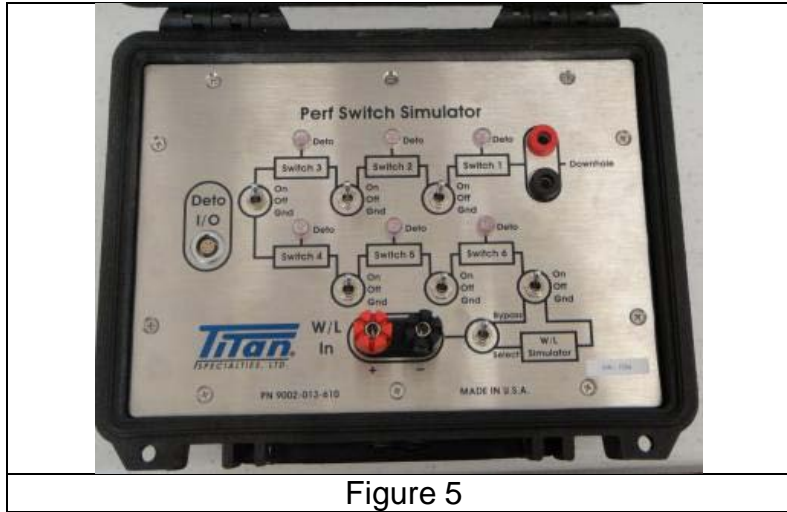

Figure 5
- **Perf Switch and Wireline Simulator Panel** – Shown in Figure 5 is a Perf Switch Simulator that allows the user to perform demonstration and training exercises, as well as troubleshoot interconnections and equipment at the well site.